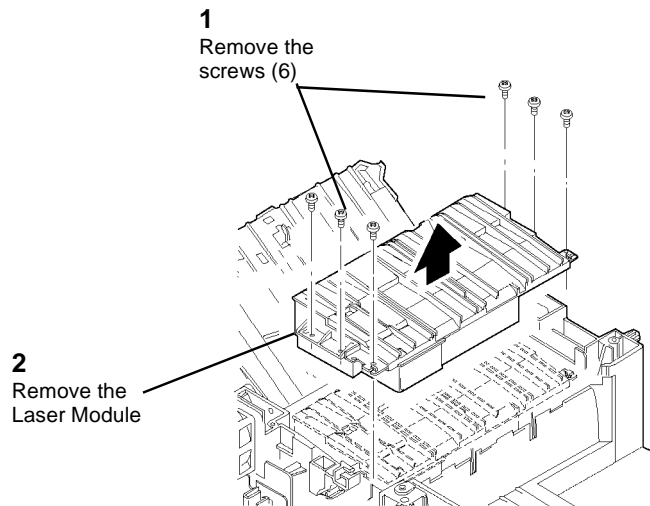

Figure 1 Removing the Laser Module
2. (Figure 1): Remove the Laser Module.